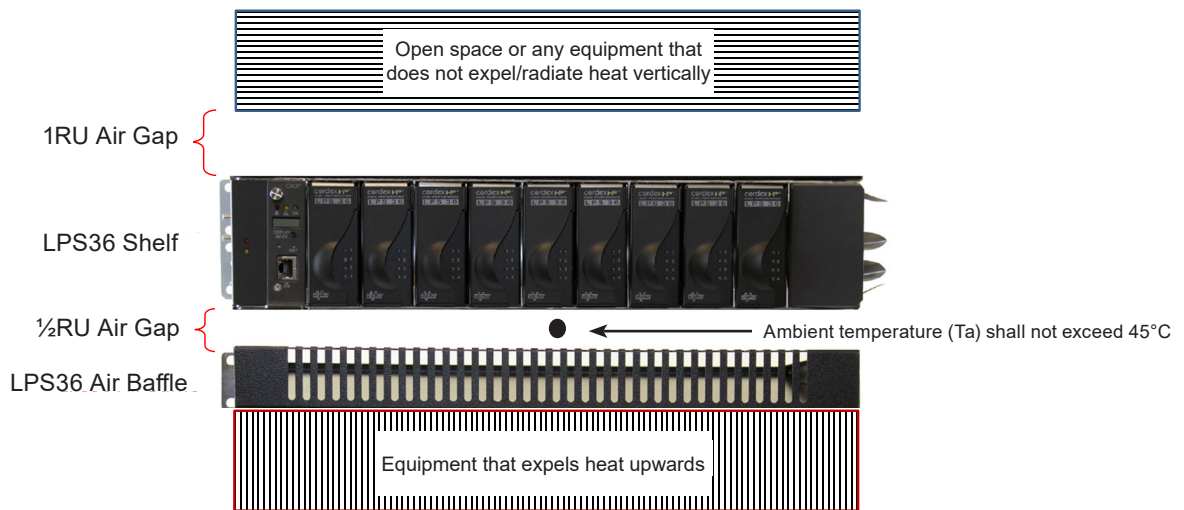

Figure 12 — Natural Convection 19"/23" Systems
The high efficiency of LPS36, given its high power density, makes it possible to operate up to  $45^{\circ}\text{C}$  ambient at full power without the need for fan tray or external airflow for **one shelf only**. When installing the LPS36 Shelf in a CO type installation that only relies on natural convection for cooling, proper spacing from surrounding equipment should be observed to facilitate effective ventilation as shown below in Figure 12.
**CAUTION:** For natural convection cooling the only orientation that can be used is the one pictured in Figure 12.